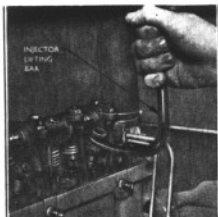

Fig. 15. Removing an Injector
3. Remove the two bolts securing each injector to the cylinder head and withdraw the injectors and copper seating washer which locates at the bottom of the injector locating bore in the cylinder head (see Fig. 15).